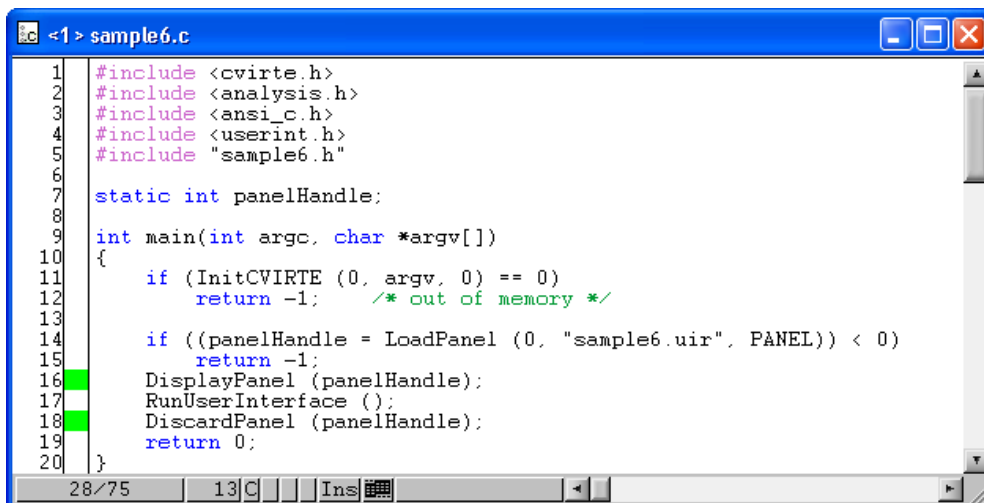

Figure 8-1. sample6.c Source File with Tags
4. Position the cursor on the tagged line in the middle of the `main` function, on the `DisplayPanel` function, as shown in Figure 8-1. You can move to this line quickly in the source code by pressing <F2>.